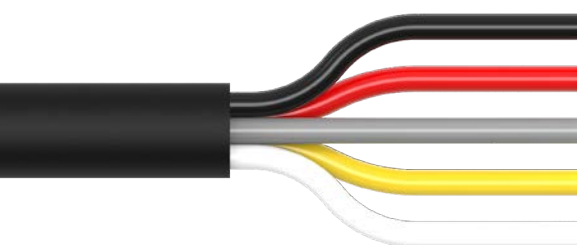

FIG. 4
5. See Fig. 4 for individual wire functions. Refer to the perimeter strobe light instructions to program the **RED** and **GREY** wires to desired strobe patterns.
6. Unplug the programming pigtail and leave the light bundles unplugged from the Main Harness (A). They will be connected to the Main Harness (A) once it's routed through the vehicle.